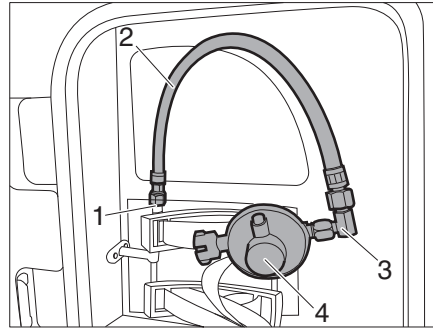

Fig. 65 Gas tube with gas pressure regulator
- Screw the elbow (Fig. 65,3) onto the gas tube (Fig. 65,2).
- Screw the gas pressure regulator (Fig. 65,4) onto the elbow.
- Screw the gas tube (Fig. 65,2) with the gas pressure regulator onto the connecting piece (Fig. 65,1).